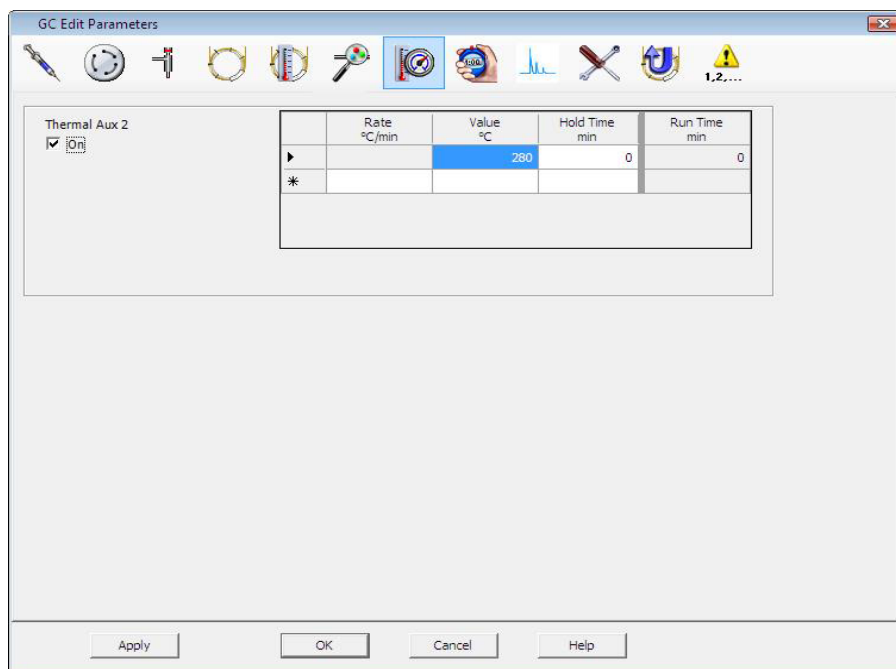

Figure 16 Setting the interface temperature
- 3 Click the **Aux** icon to edit the interface temperature (Figure 16).